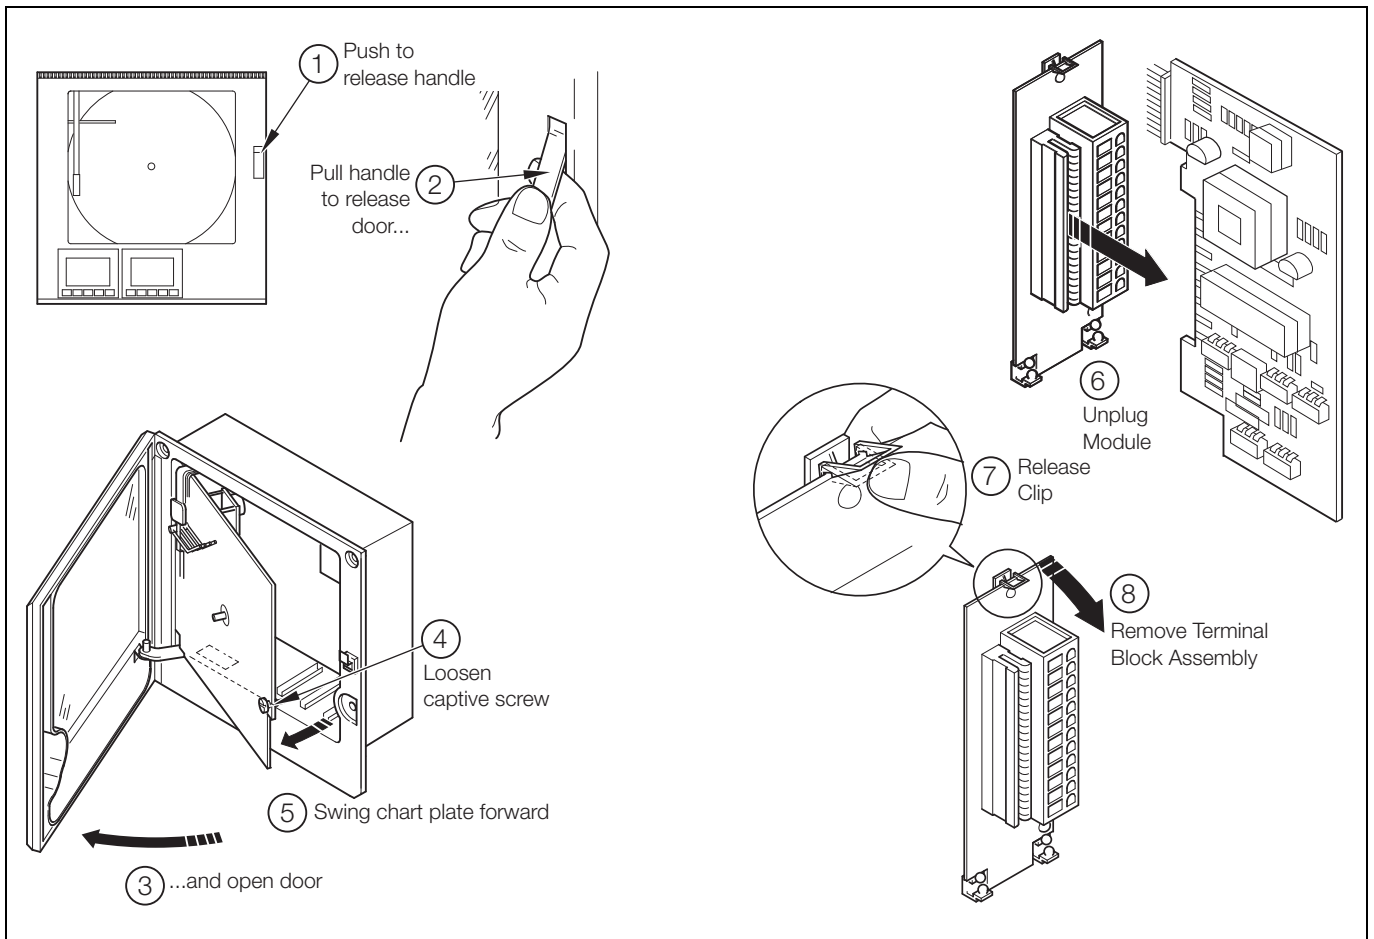
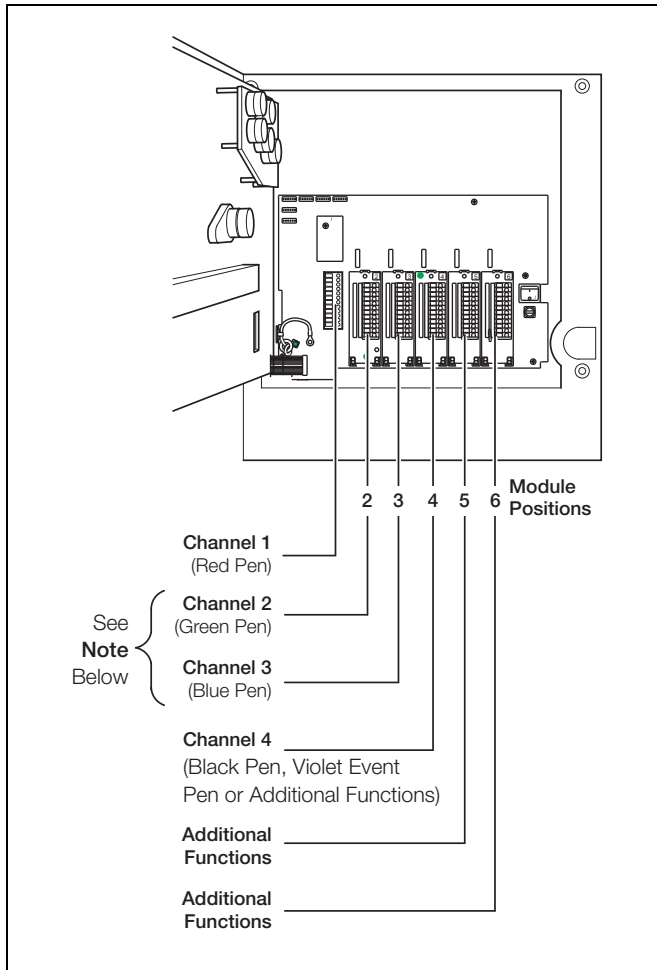

Fig. 5.1 Removing Terminal Block Assembly
Fig. 5.2 Module Positions and Functions
- The terminal blocks can be removed from the main PCB when making connections – see Fig. 5.1 on page 65. Before removing a module, note its position.
To gain access to the modules, open the door and chassis – see Fig. 5.1 on page 65. There are five module positions (2 to 6) as shown in Fig. 5.2.
Other Channel connections are made to standard I/O modules, fitted in positions 2, 3 or 4 – see Fig. 5.2.